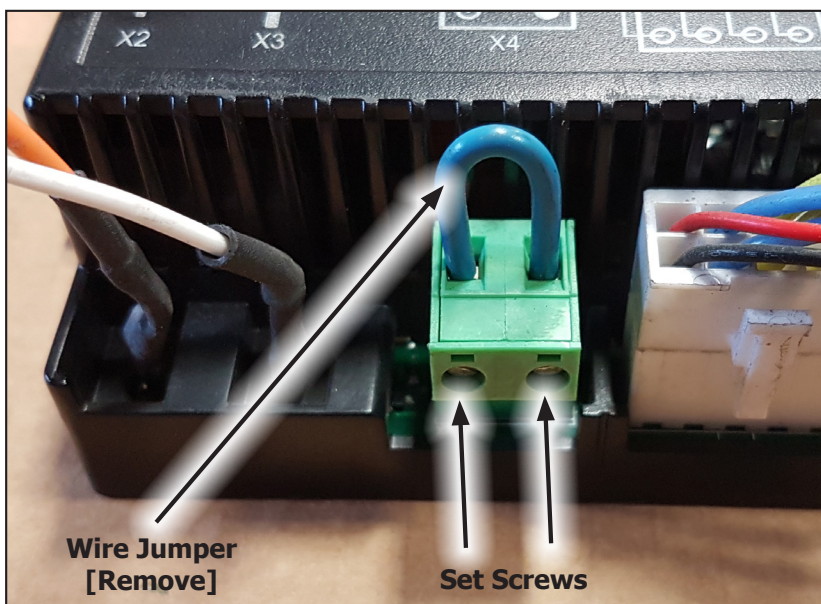

Figure 40: ON/OFF Terminal Block on IFC
Step 3: Remove the ON/OFF terminal block from the X4 port on the IFC (Figure 40).
2. Disconnect the spill switch wires from the IFC (see Figures 40, 41).